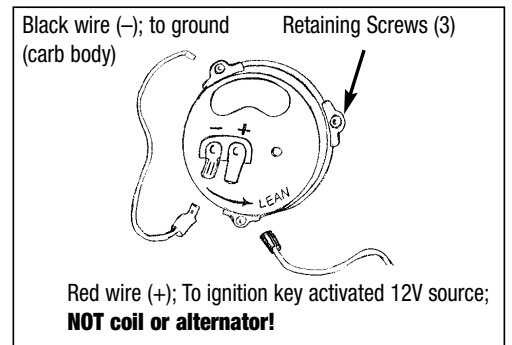

Figure 7- Choke Wire Installation
3. On electric choke models (**See Fig. 7**), remove one choke housing retaining screw and install eyelet end of choke ground wire (black) to choke housing and reinstall screw. Connect clip end of choke ground wire to negative (-) spade terminal on choke housing.
Electric choke models connect red choke wire to 12 volt + source that is activated by ignition switch (**Not coil or alternator, see Figure 7**).